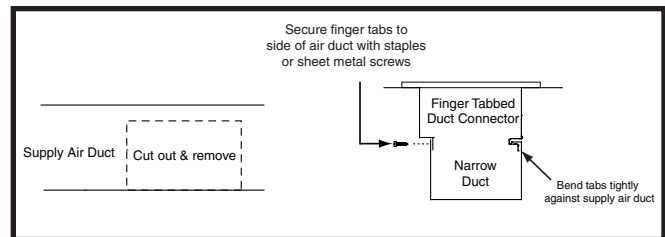

Figure 17. Narrow Air Ducts - Option 2
3. Bend the tabs on the bottom of the duct connector upwards and as tight as possible against the supply air duct. See Figure 17 (page 16).